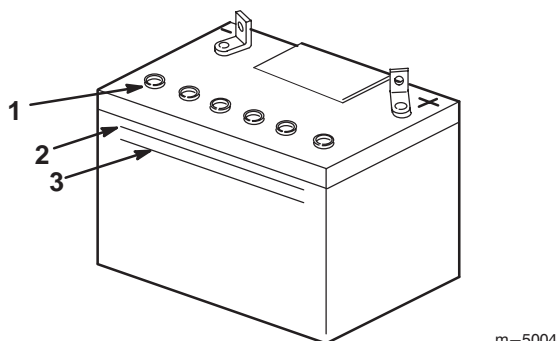

Figure 42
2. Look at the side of the battery. The electrolyte must be up to the “UPPER” line (Fig. 42). Do not allow the electrolyte to get below the “LOWER” line (Fig. 42).
3. Remove the vent caps from the battery (Fig. 42).
4. Slowly pour distilled water into each battery cell until the level is up to the “UPPER” line (Fig. 42) on the battery case.
5. Wait five to ten minutes after filling the battery cells. Add distilled water, if necessary, until the electrolyte level is up to the “UPPER” line (Fig. 42) on the battery case.